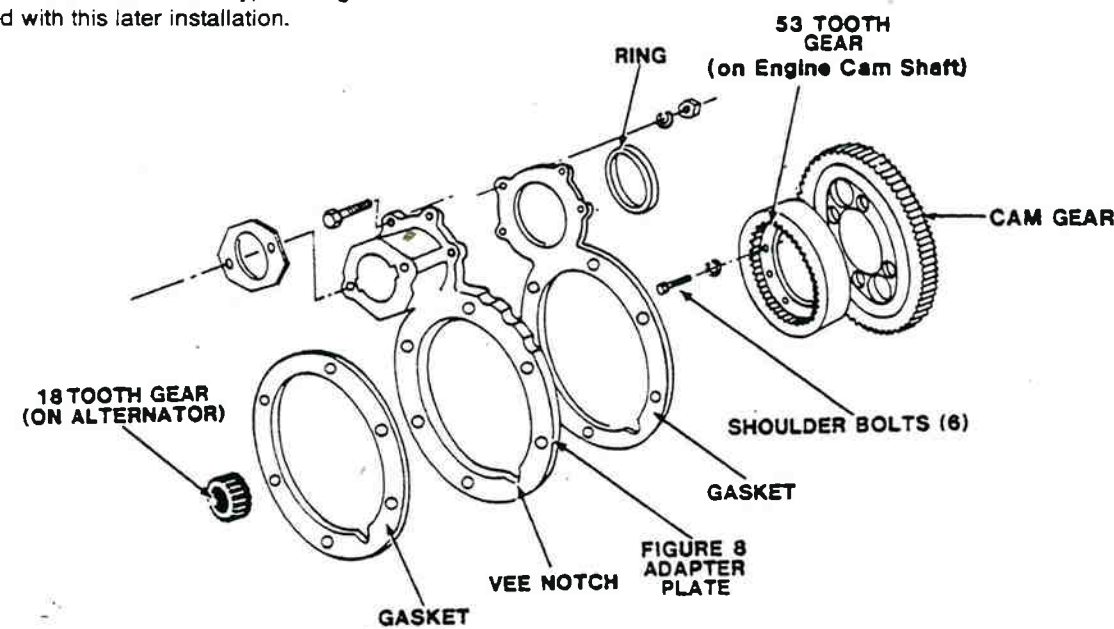

Figure 7-14A. Alternator Mounting Adapter.
1. Position gasket and "figure-8 adapter" on flywheel housing. See Fig. 7-14A.